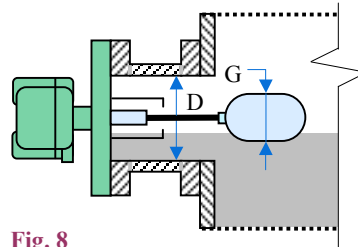
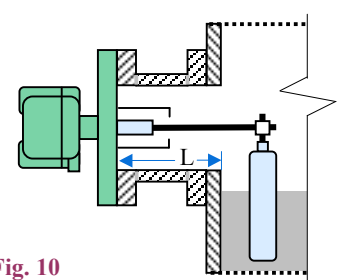
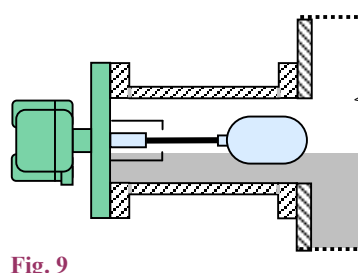
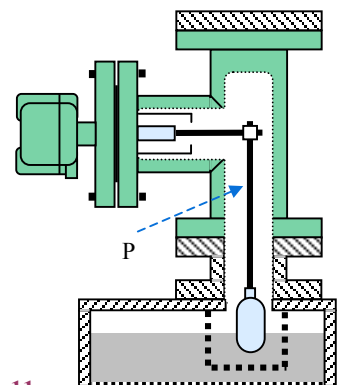

Fig. 8
Fig. 10
Fig. 9
Fig. 11
When liquid level rises up to the preset point, the float makes the output device trip (*trip on rise*); then, when level comes down again and exceeds the preset point, the float makes the output device come back to the initial position (*reset on fall*). Between the set and reset points there is always a gap, named *differential*; it is only $20 \pm 5\text{mm}$ in the standard case, but can be up to 300mm in special versions like in Fig. 10 prepared upon request. The inverse function is available too : *Trip on fall* and *Reset on rise*.
- other versions, to be defined together with user : Fig. 8, Fig. 9, Fig. 10, Fig. 11.